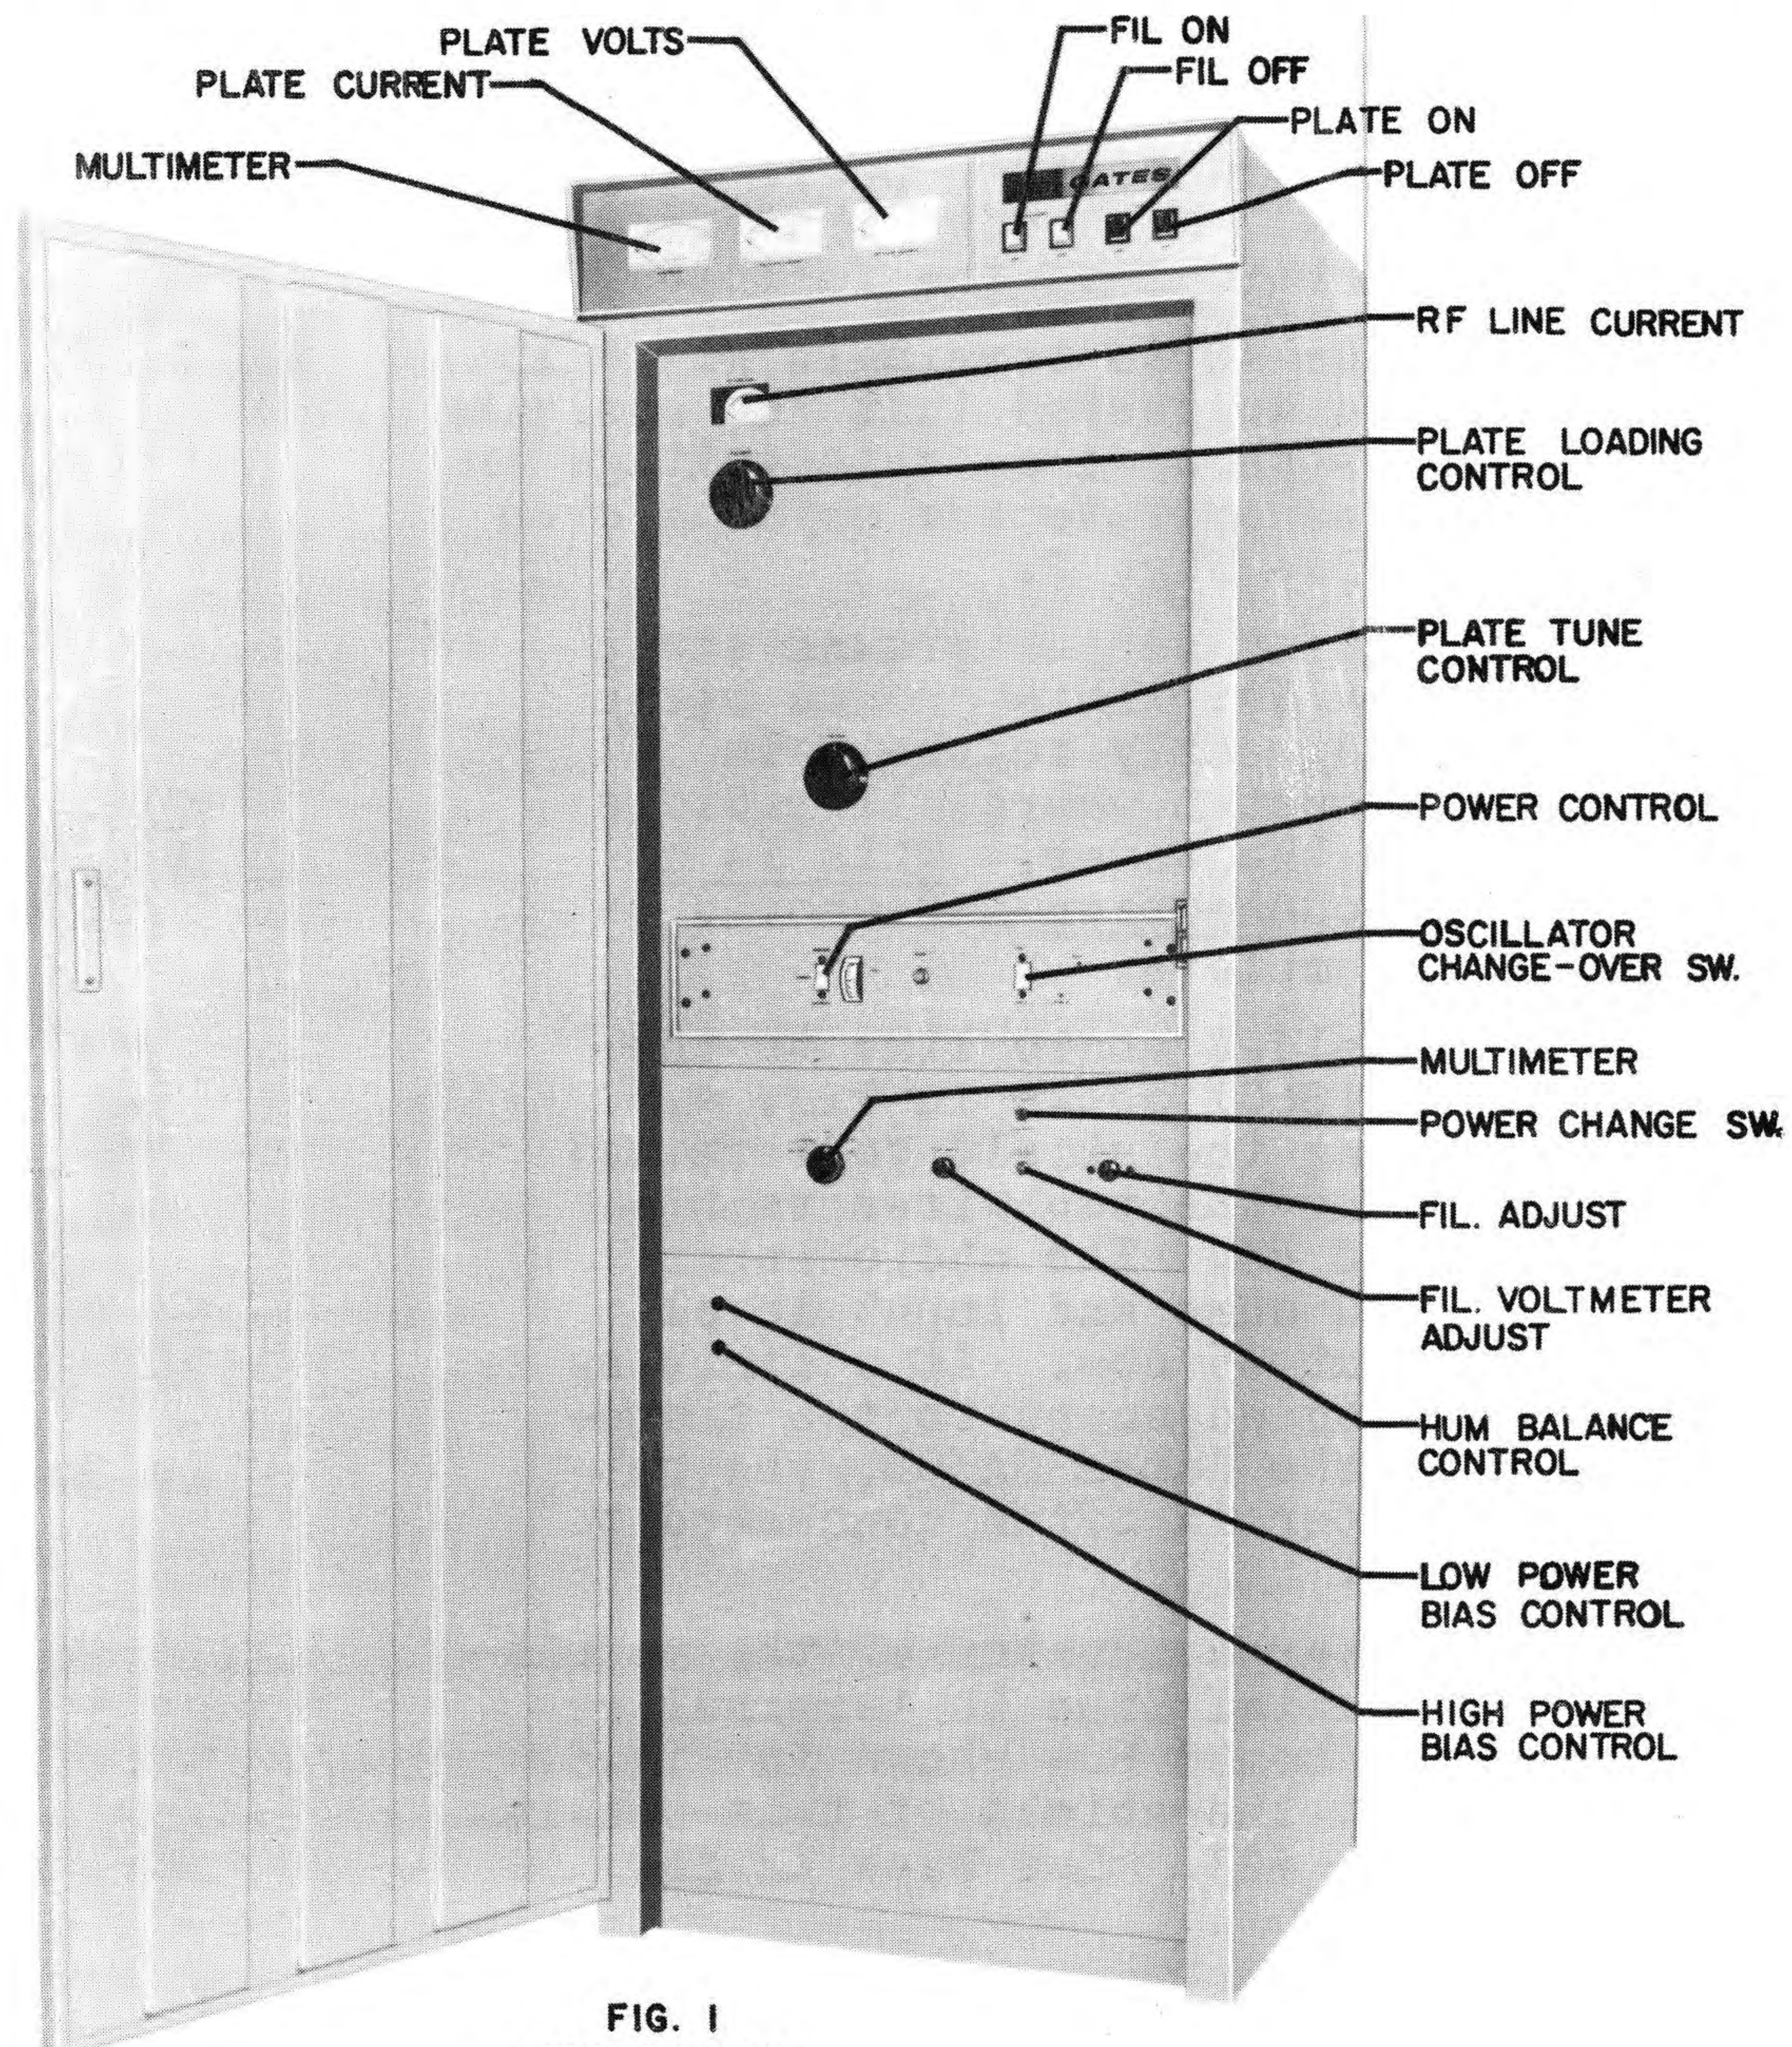

FIG. 1
6. Start the transmitter by pressing the FILAMENT ON switch, Fig. 1, Page 3. The blower should start and the pilot light on the MULTIMETER should light. Reread the first part of these instructions on tube gassing.
7. Place the MULTIMETER switch in the BIAS position and adjust the HIGH POWER BIAS VOLTAGE CONTROL, Fig. 1, Page 3, so that the bias voltage is 195 volts.
8. Now place the MULTIMETER switch in the FILAMENT position and turn the FILAMENT ADJUST control, Fig. 1, Page 3 until the meter reads 8.5 volts.
- a) If the above readings are low, advance the POWER CONTROL (Fig. 1, Page 3).
- b) If the plate current is lower than suggested and the screen current is too high, the PLATE LOADING CONTROL, Fig. 1, Page 3, should be moved a little counterclockwise and the PLATE TUNING CONTROL resonated.
4. Adjust the LOW POWER BIAS CONTROL, Fig. 1, Page 3, for minimum distortion at 95% modulation at 1000 cycles as was done in Step 19.